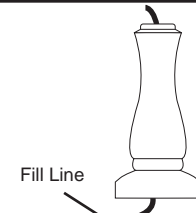

Figure 2
3) Thread the end of the Fill Line with the Flexible Tubing through the bottom of the birdbath Pedestal and out the top (see Figure 2) until it extends about 6 inches out the Pedestal.